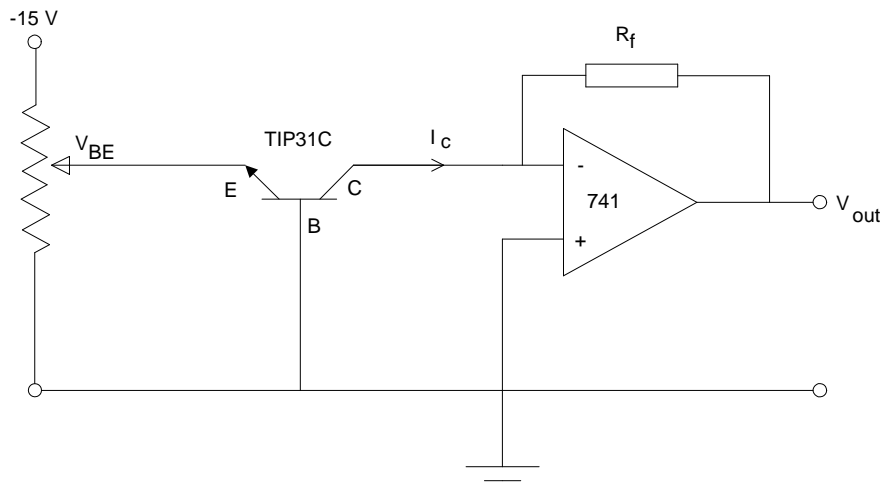

Figure 4: Circuit used to determine Boltzmann's constant.
The transistor used in this experiment is a TIP31C npn power transistor. Because the emitter is  $n$ -type and the base is  $p$ -type, the base-emitter voltage  $V_{BE} = V_B - V_E$  must be positive to forward bias the base-emitter junction. Because the base is held at 0,  $V_E$  must be negative. The circuit used in this experiment is shown in Fig. 4. The transistor is already wired and housed in a low-temperature probe, but you will need to build the op-amp current detection circuit. You will also need to supply a variable negative voltage to the emitter of the transistor. One possible method using a variable resistor is shown in the figure. Typical emitter voltages that you will use are  $\approx -0.5$  V.
1. Begin by constructing the circuit shown in Fig. 4. There is a cable designed to be used with the probe. The ends of the wires have been labeled, “Base,” “Emitter,” and so on. Ensure that all power supplies are turned off when making electrical connections to the op-amp circuit. Don't forget that the op-amp needs ±15 V supplies!
4. Once you have saturated the op-amp output (15 V) turn off all the power supplies and switch to a 1 MΩ feedback resistor. You will have to remeasure the op-amp offset voltage → repeat steps (2) and (3) above.